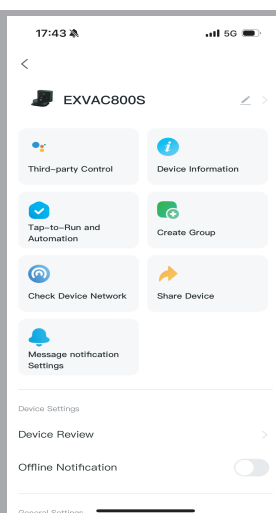

Fig. 19
F). Click the icon  on the main interface and enter Fig.19, users can perform more about EXVAC800S, such as connecting to the third party (Google assistant, Alexa etc), share device or update the firmware, etc.